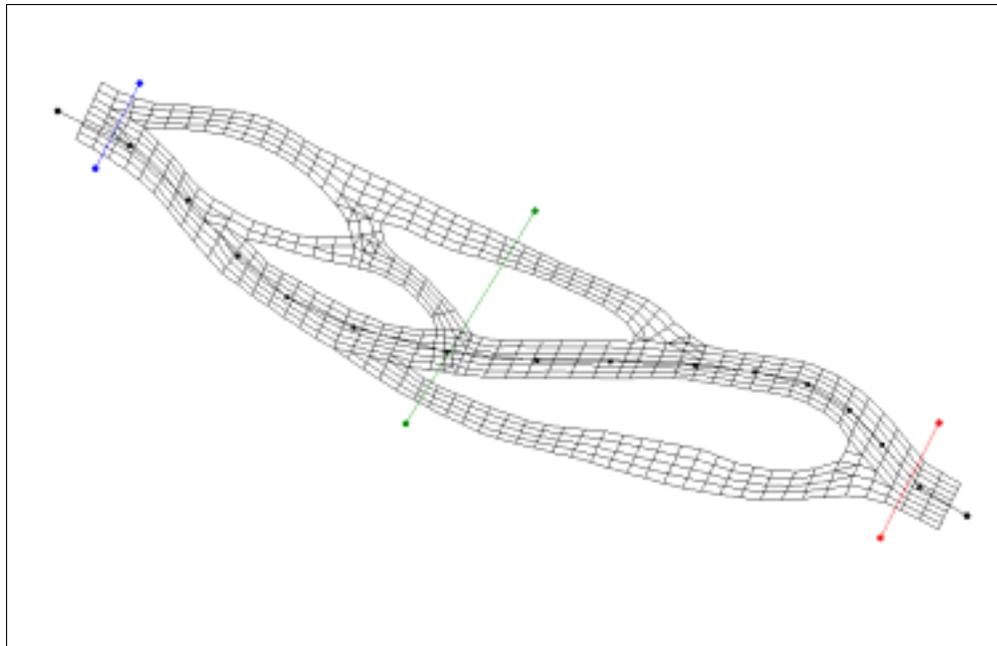

Figure 16-6 Profile and cross-section arcs
2. Create an arc down the main channel, as shown in Figure 16-6. Remember to double-click the last point to end the arc.
2. Create each of the cross section arcs, as shown in Figure 16-6. Note: When creating these, do not click ON the profile arc, as this would split it.